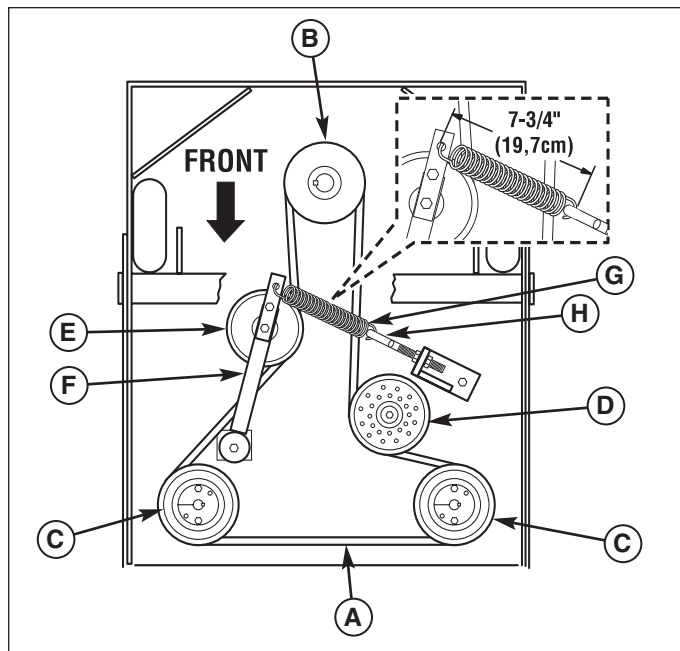

Figure 35. Hydraulic Pump Drive Belt Replacement (Shown from Below)
3. Loosen the nut towards the front of the machine on the spring anchor hook (H, Figure 35) to release the majority of the belt tension. Use caution and remove the nut to completely release the tension.
5. Reinstall the anchor hook (H) into the anchor tab and loosely fasten the nut. Adjust the spring until a measurement of 7-3/4" (19,7cm) is achieved from the outside of the spring hooks. Tighten nut.